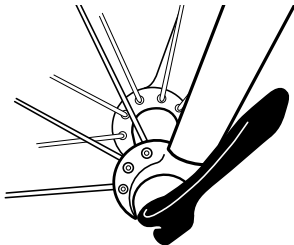
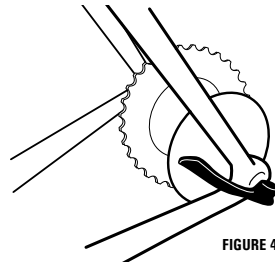

FIGURE 3
FIGURE 4
4. Place the quick release lever in the palm of your hand and move the lever fully into the CLOSED position. (see figure 3 for front wheels, figure 4 for rear wheels). At the half way closed position you should feel resistance to this motion.
6. Orient the quick release levers so they do not interfere with any other part or accessory, such as rack or fenders. Be sure to orient the quick release levers in such a way that they will not become accidentally snagged by obstacles in the path of the bicycle. [fig 3, 4].